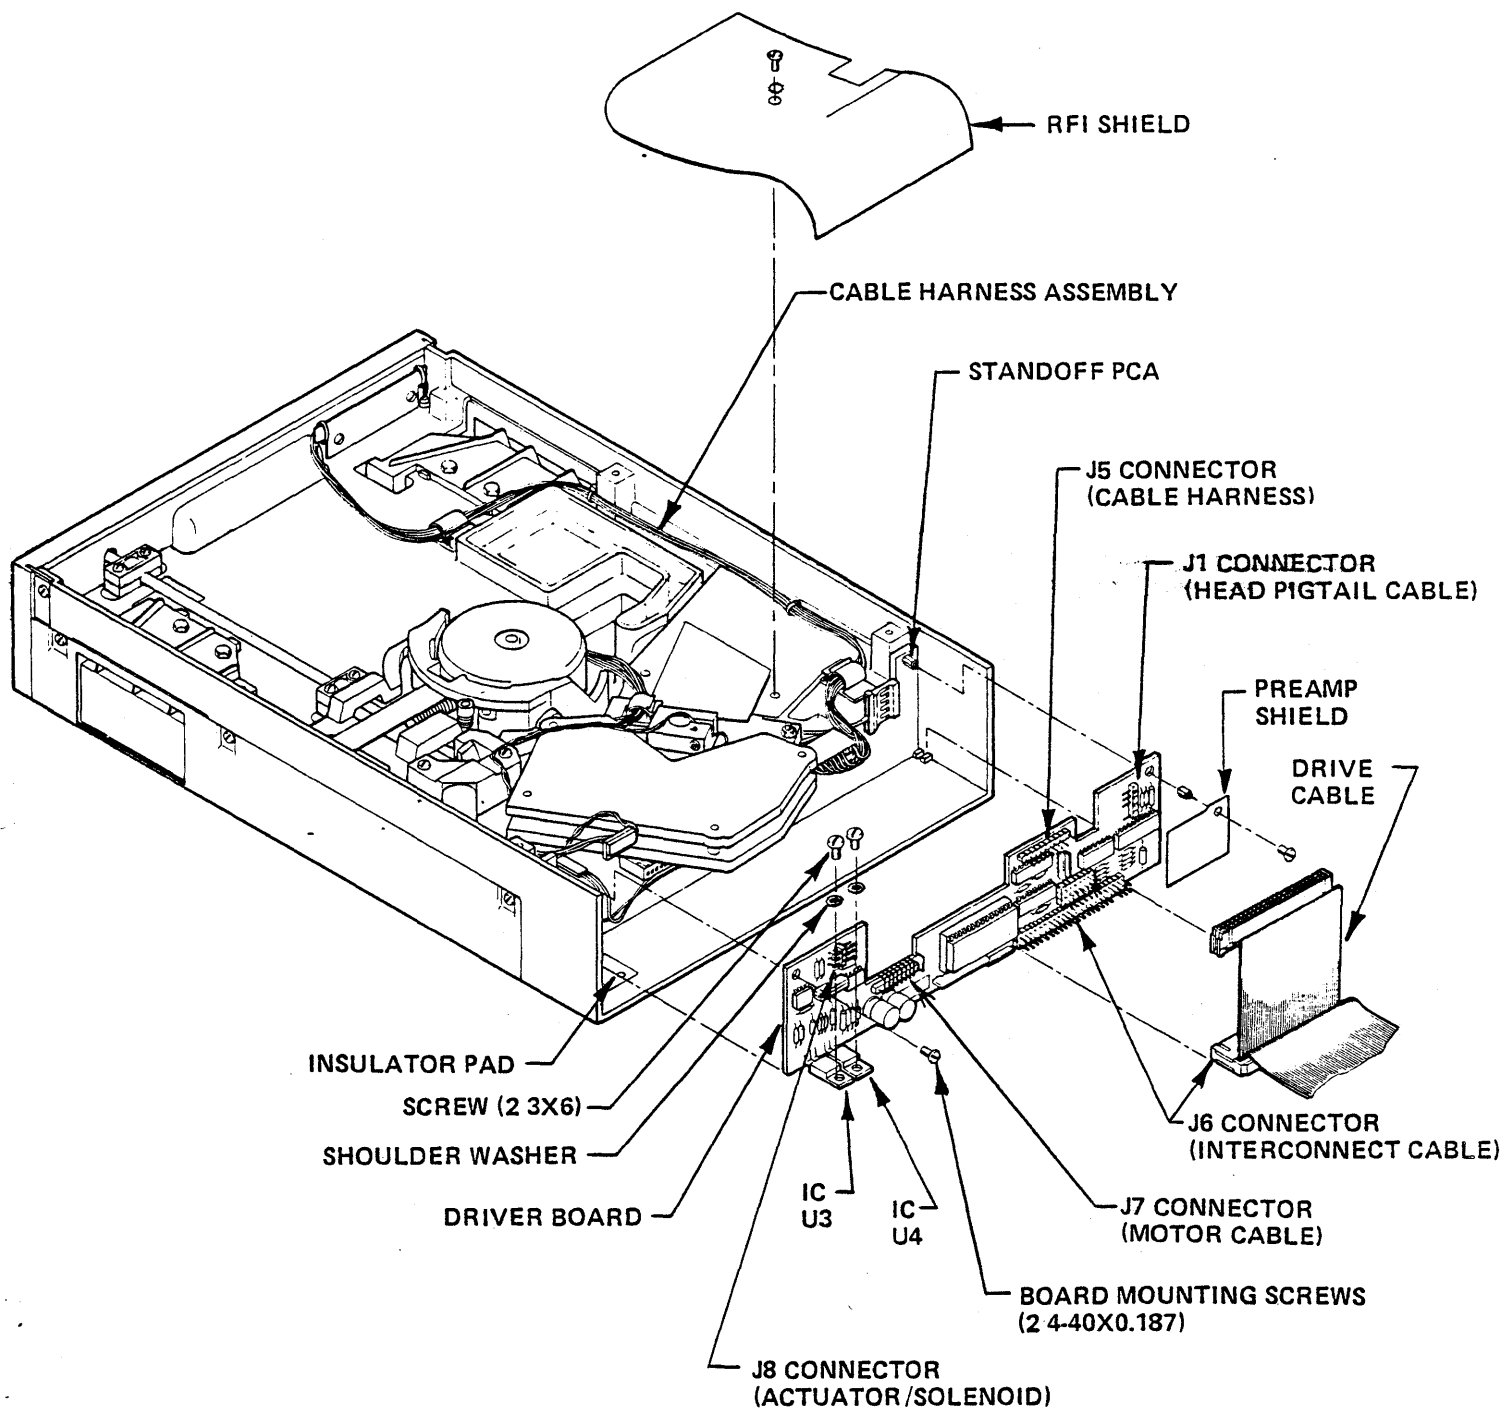

Figure 4-6. Removal of Driver Board
The driver board contains the electronics that interface the drive to the controller. The driver board (1) runs and controls the speed of the drive motor; (2) positions the read/write head; (3) controls write current switching to the head; (4) amplifies the read signal from the head; and (5) monitors the motor, front panel pushbutton, and the control lines from the controller. To remove the driver board, proceed as follows (Figure 4-6):